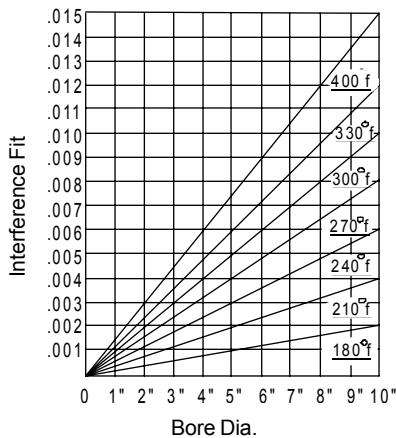

Figure 1 - Temperature Chart
3. Mount hubs with short end in board. **Straight Bore Hubs:** Hub bores must be expanded prior to mounting. Heat hubs in either an oil bath or oven until bores are larger than shaft diameter (Reference Table 1 and Figure 1).